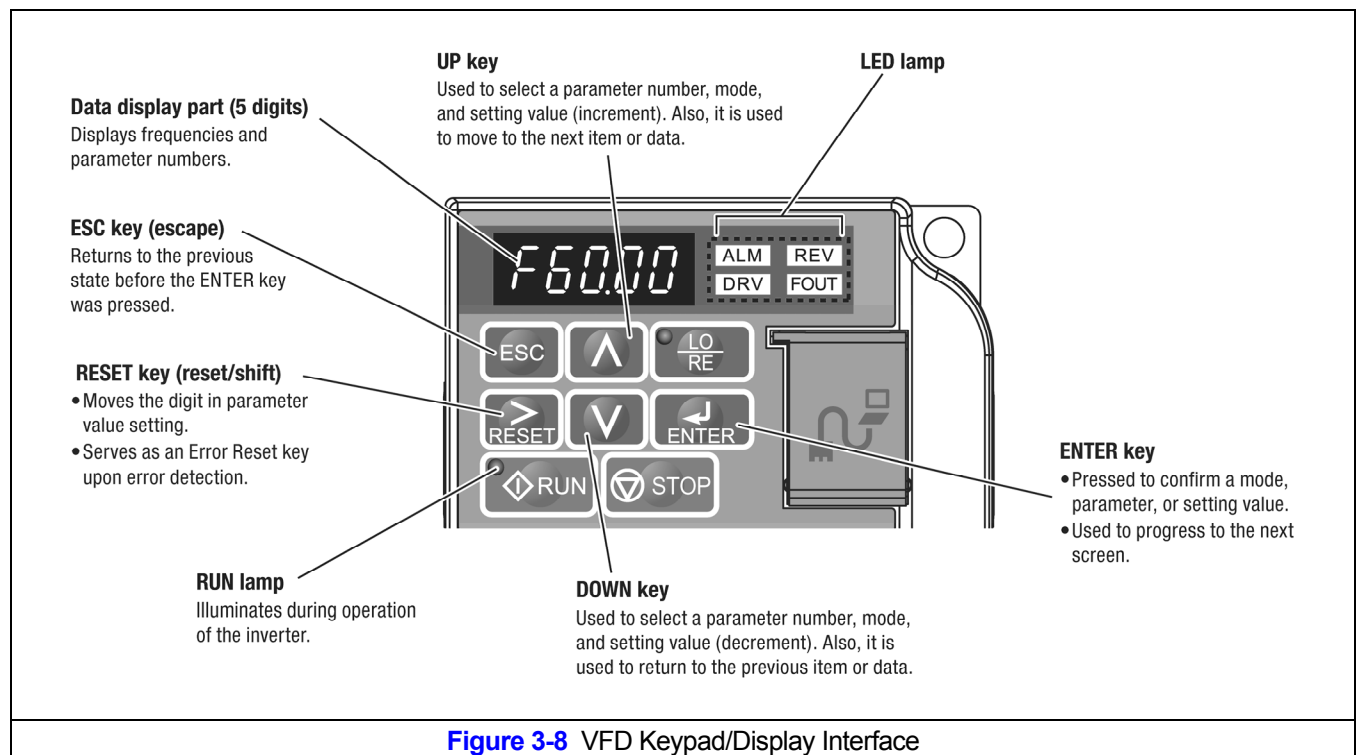

Figure 3-8 VFD Keypad/Display Interface
- 3.6.4 The VFD is controlled by a Keypad/Display Interface. Refer to Figure 3-8 for Keypad/Display Interface functions and descriptions.